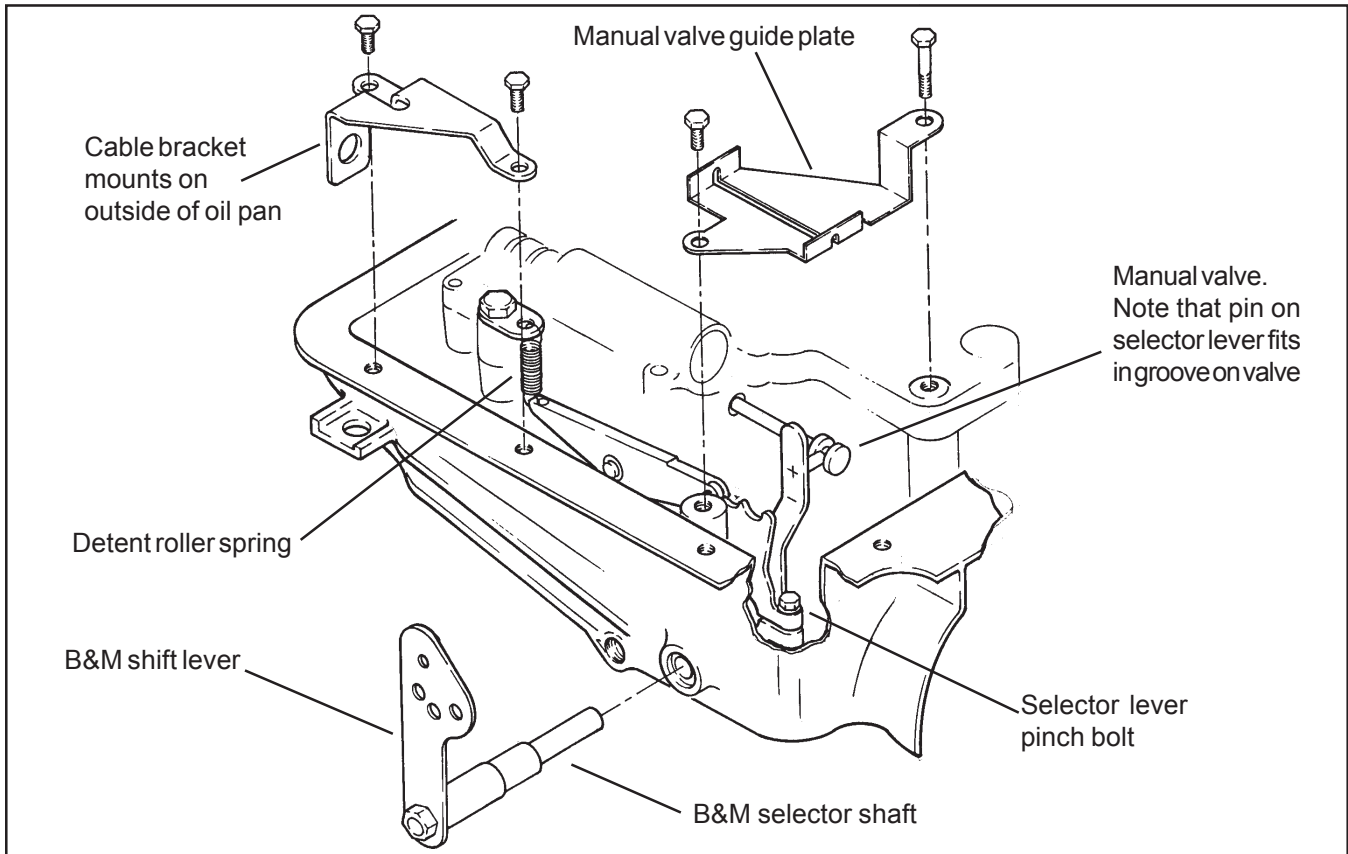

Figure 1
STEP 3. Remove the manual valve guide plate by removing two bolts (**See Figure 1**). Unhook and remove the detent roller spring. Allow the detent roller to pivot out of the way. Note how the pin on the manual valve selector engages the groove in the manual valve.
STEP 9. Install the cable bracket in position with the two remaining pan bolts (**See Figure 1**). Install the **B&M** lever onto the shaft with the lever pointing down. If your cable comes from the front (usually a rear engine car) the lever is installed pointing upwards. You will have to make your own cable bracket for this installation.